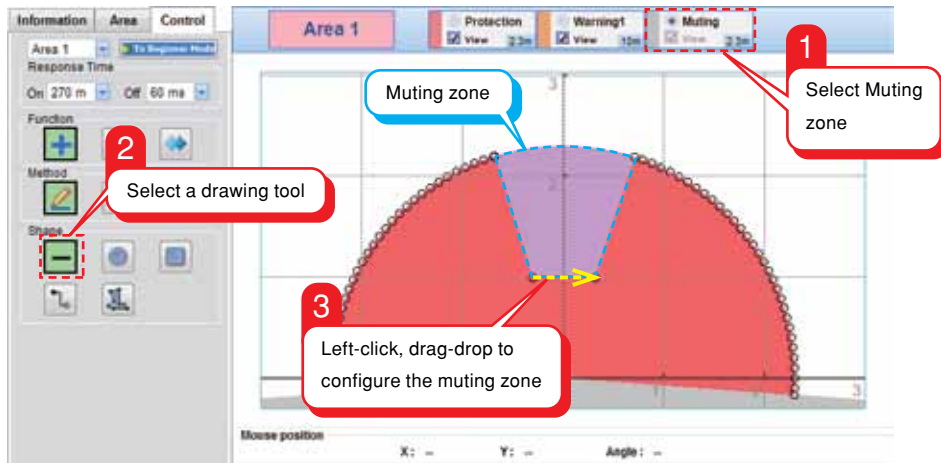

Figure 7-49. Muting zone configuration
- Muting zone is displayed in purple colour as shown in figure 7-49.